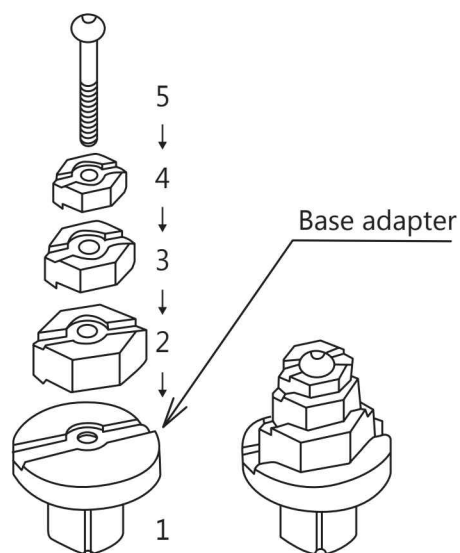

Fig. 1
- Adapters with hexagon heads are free to be combined, allowing a free 3-piece combination according to the size of the torque wrench to be checked. *See Fig. 1.
Select three hexagon head adapters that are frequently used from the supplied adapters. Assemble the three adapters onto the fixed base and tighten them with the fixing screws. Then, place the assembled adapters onto the holder on the left side of the checker. * See Fig. 1